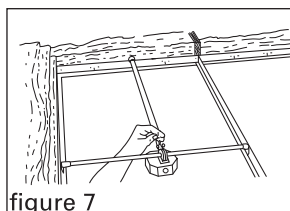

figure 7
6. Slide the stabilizer bar through the electrical box bracket and snap the end onto the ceiling grid (figure 7).